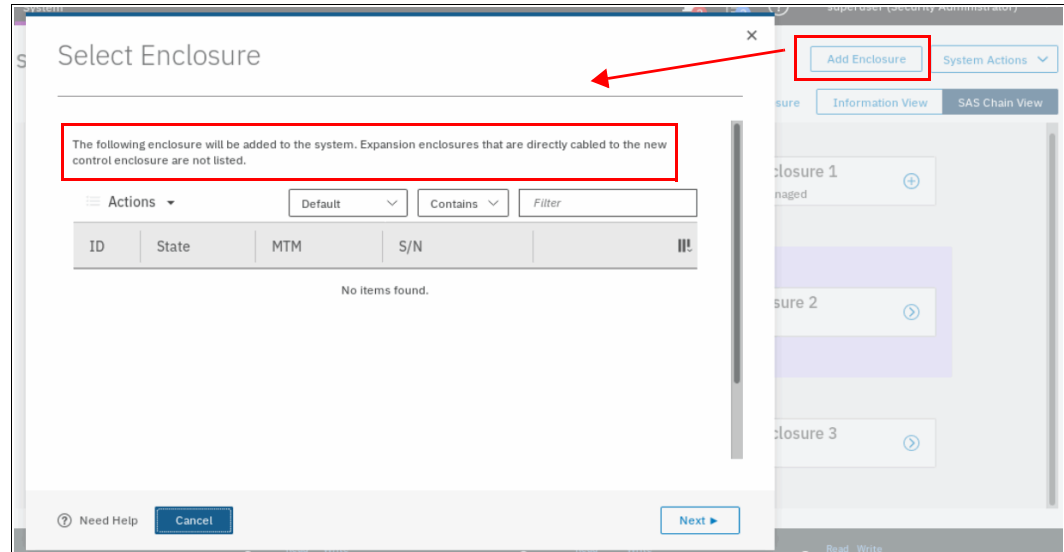

Figure 4-131 Adding an enclosure
2. Select the **+** next to the enclosure that you want to add or click **Add Enclosure** at the top. These buttons appear only if there is an unmanaged enclosure that is eligible to be added to the system. After they are selected, a window opens, on which you need to select the enclosure you want to add. Expansion enclosures that are directly cabled do not need to be selected, as shown in Figure 4-131.